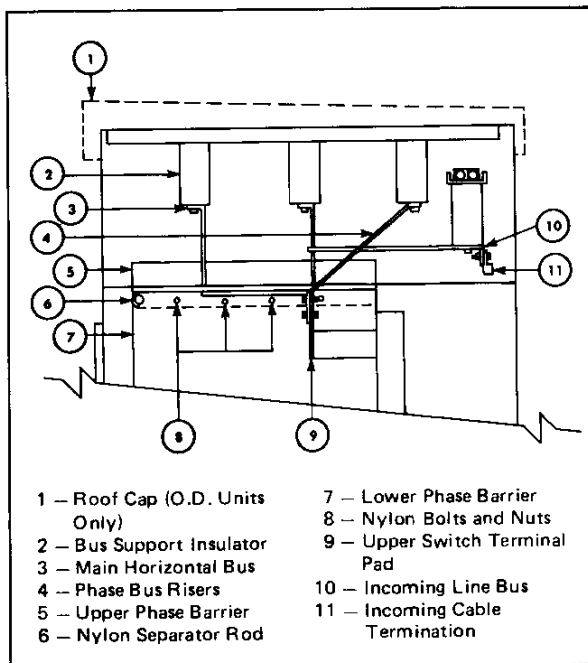

Fig. 8 Section View, Superstructure Assembly
3.9 Superstructure Assembly (See Figs. 8 and 9)